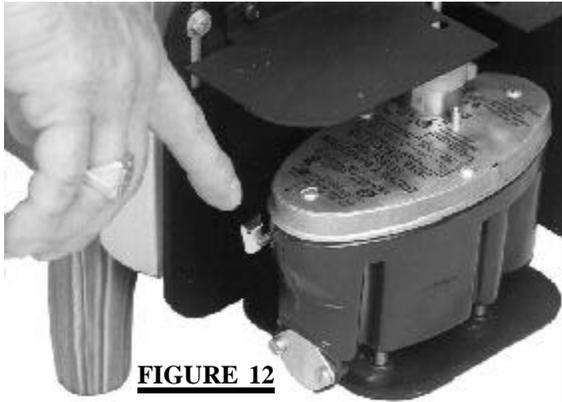

FIGURE 12
4. Set the control knob to '0'. **FIGURE 11.** Depress safety lever to allow oil flow into the regulator. **FIGURE 12.**